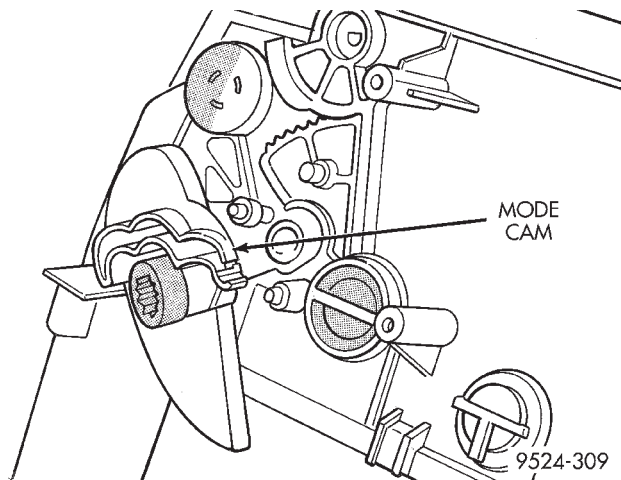
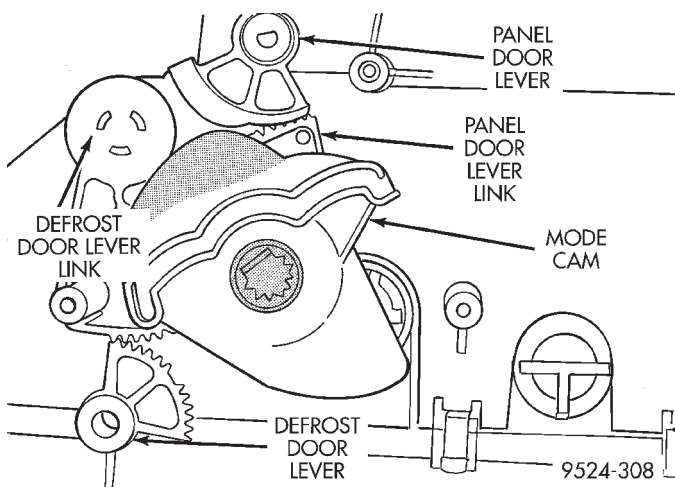

**Fig. 102 Mode Motor Cam Removal**
**Fig. 101 Mode Motor Cam**
(30) Remove mode motor cam from housing (Fig. 101) and (Fig. 102).